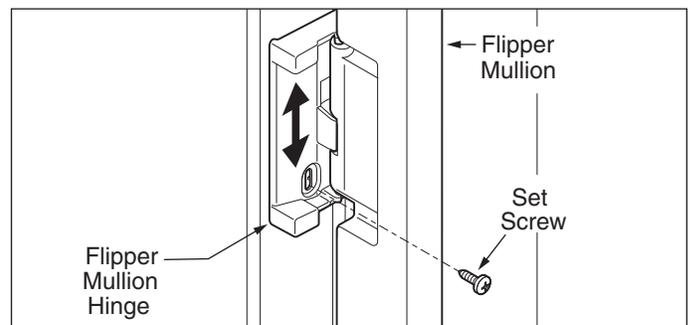

Figure 6-13.
3. Remove the retainer screw located in the center pivot bracket. (See Figure 6-13)